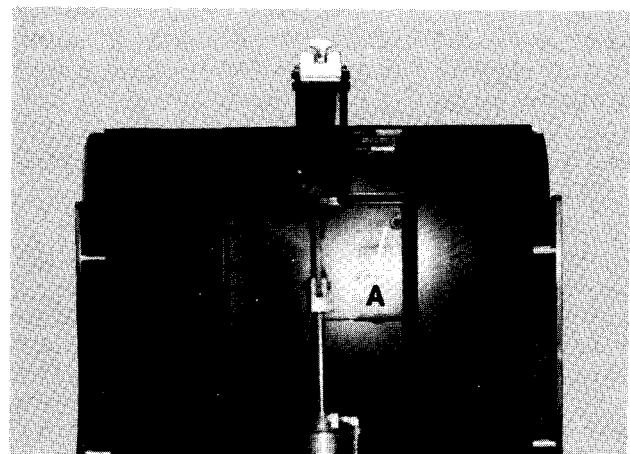

Fig. 5
- 2) Remove the (4) screws located inside the recessed area of the metal back frame. (Item A, Fig. 5)
- 4) Align holes on back section and install (4) # 10-24 x 5/8" screws. Item A, Fig. 5.